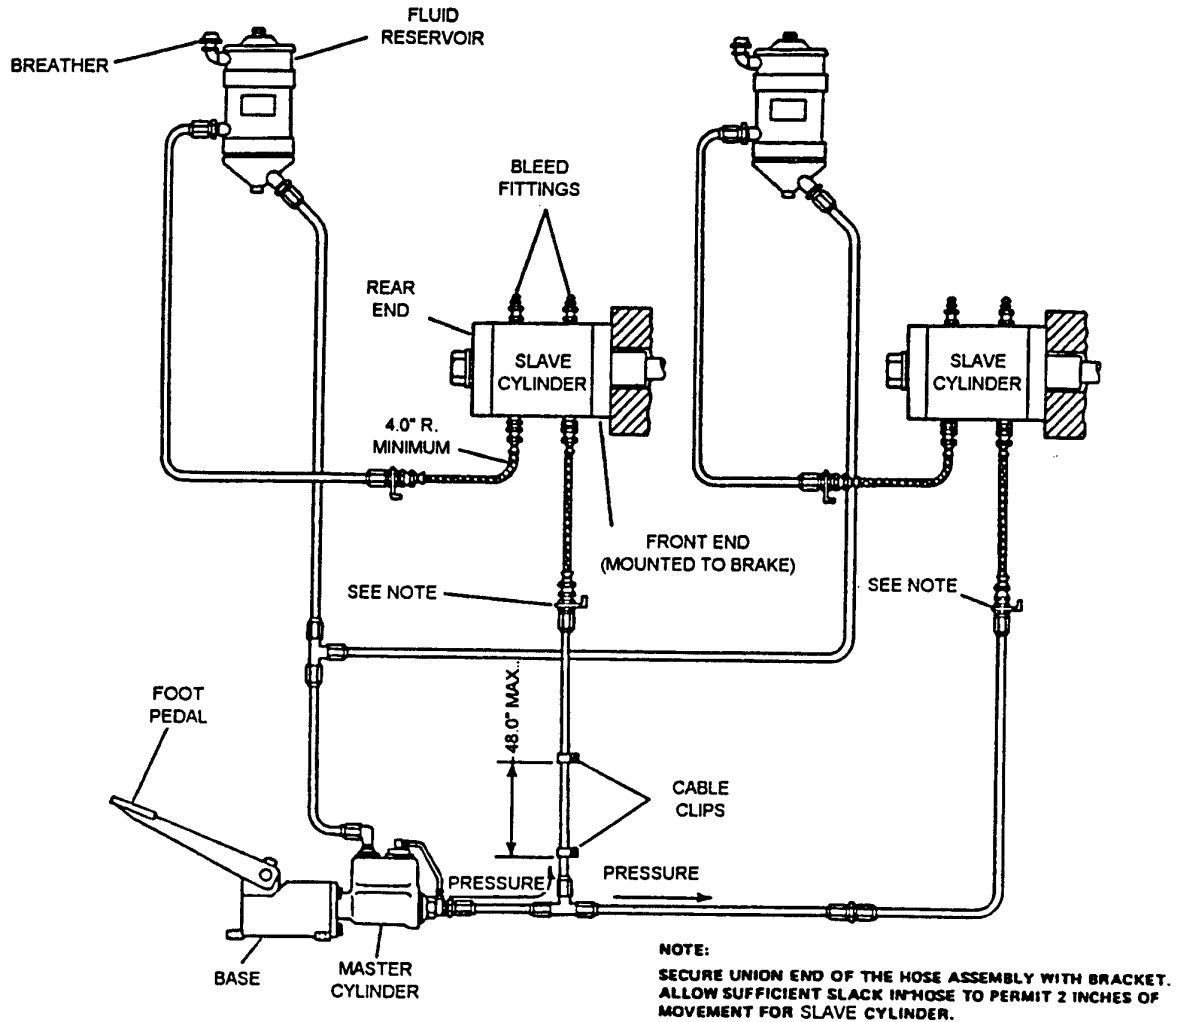

Figure 6
- 2.3.(d):** Two brakes, single station, with remote electric bleed. See Fig. 6.